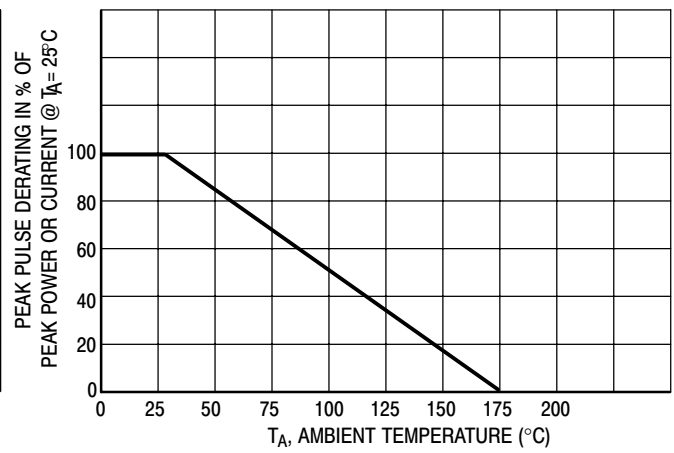
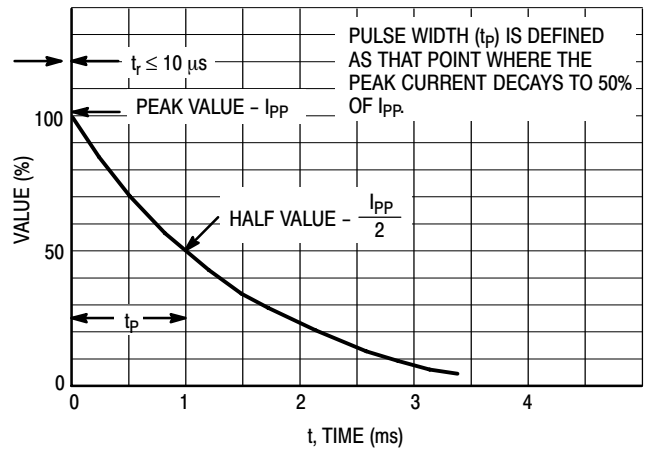

Figure 2. Pulse Derating Curve
Figure 4. Pulse Waveform
1. Nonrepetitive current pulse per Figure 4 and derated above  $T_A = 25^\circ\text{C}$  per Figure 2.
7. Surge current waveform per Figure 4 and derate per Figure 2 of the General Data – 1500 W at the beginning of this group